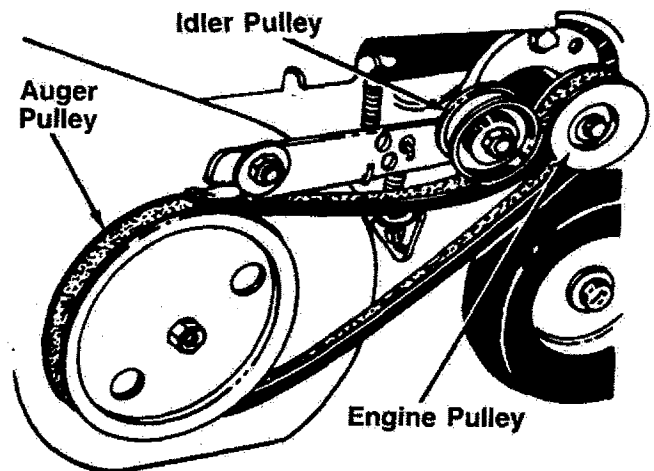

FIGURE 8.
- Pull upward on the idler pulley and slip the belt off engine pulley. See figure 8.